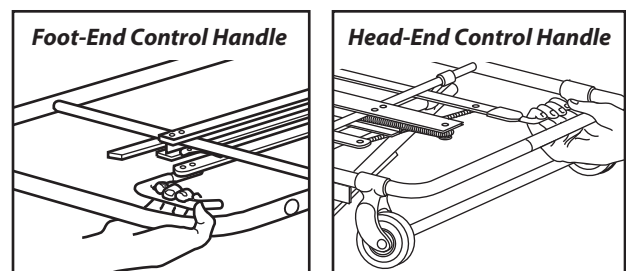

Figure 17 - Lowering the Cot: Use Both Control Handles
2. Both Operators: While supporting the weight of the cot, squeeze the leg control handles and lower the cot to the desired height (Figure 17).